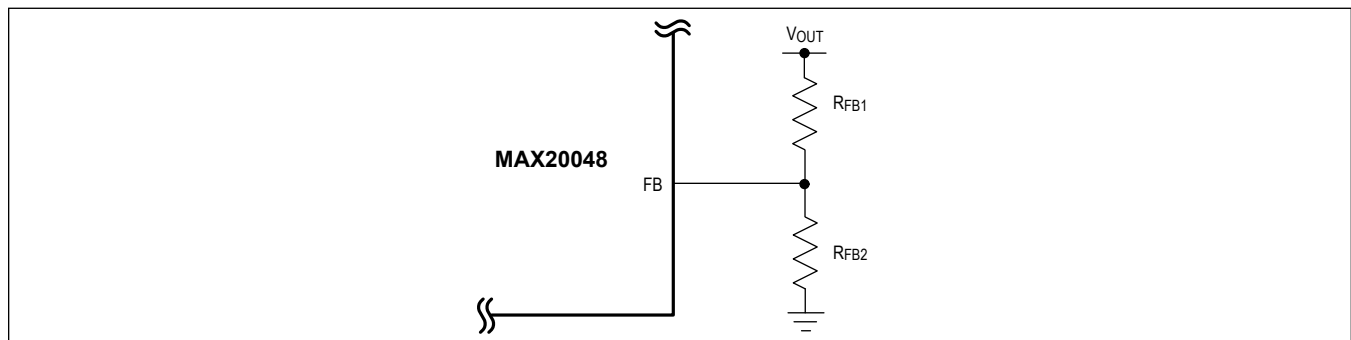

Figure 1. Setting the Output Voltage for the MAX20048
Connect FB to VCC to enable the fixed output voltage (5V) set by a preset internal resistive voltage-divider connected between the feedback (FB) pin and AGND. To externally adjust the output voltage between 4V and 25V, connect a resistive divider from the output (OUT) to FB to AGND (Figure 1). Calculate RFB1 and RFB2 with the following equation:
The MAX20048 uses an internal transconductance amplifier with its inverting input and output terminals available to the user for external frequency compensation, as shown in Figure 1.